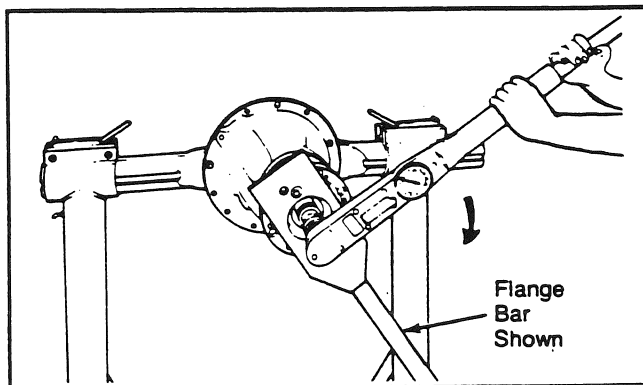

Fig. 39
4. Fasten a yoke bar to the input yoke. The bar retains the drive pinion when you tighten the assembly nut. Tighten the nut to the specified torque (see Fig. 39). Remove the yoke bar.